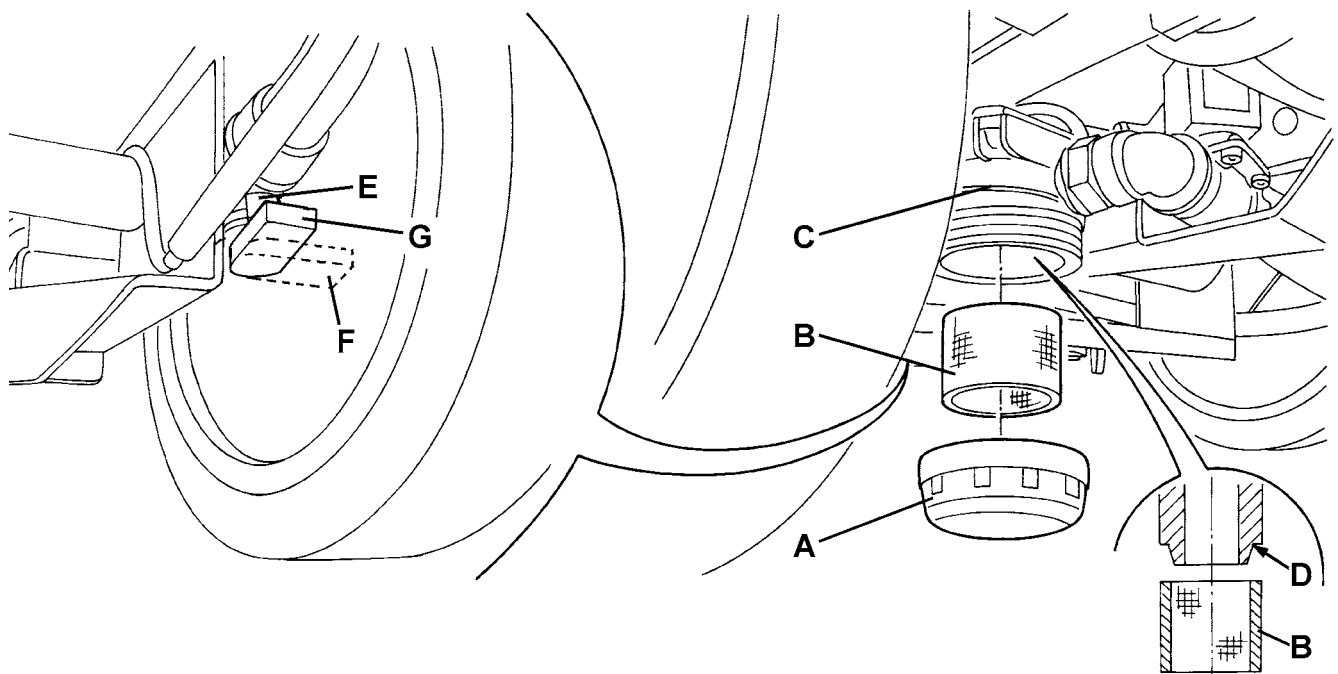

Figure 6
2. Turn the ignition key (41) to "0".
3. Close the solution valve (E, Fig. 6) under the machine, behind the right rear wheel. The valve (E) is closed when it is on the position (F) and it is open when it is on the position (G).
4. Remove the transparent cover (A), then remove the filter strainer (B) under the machine in front of the right rear wheel. Clean and reassemble the components on the support (C).